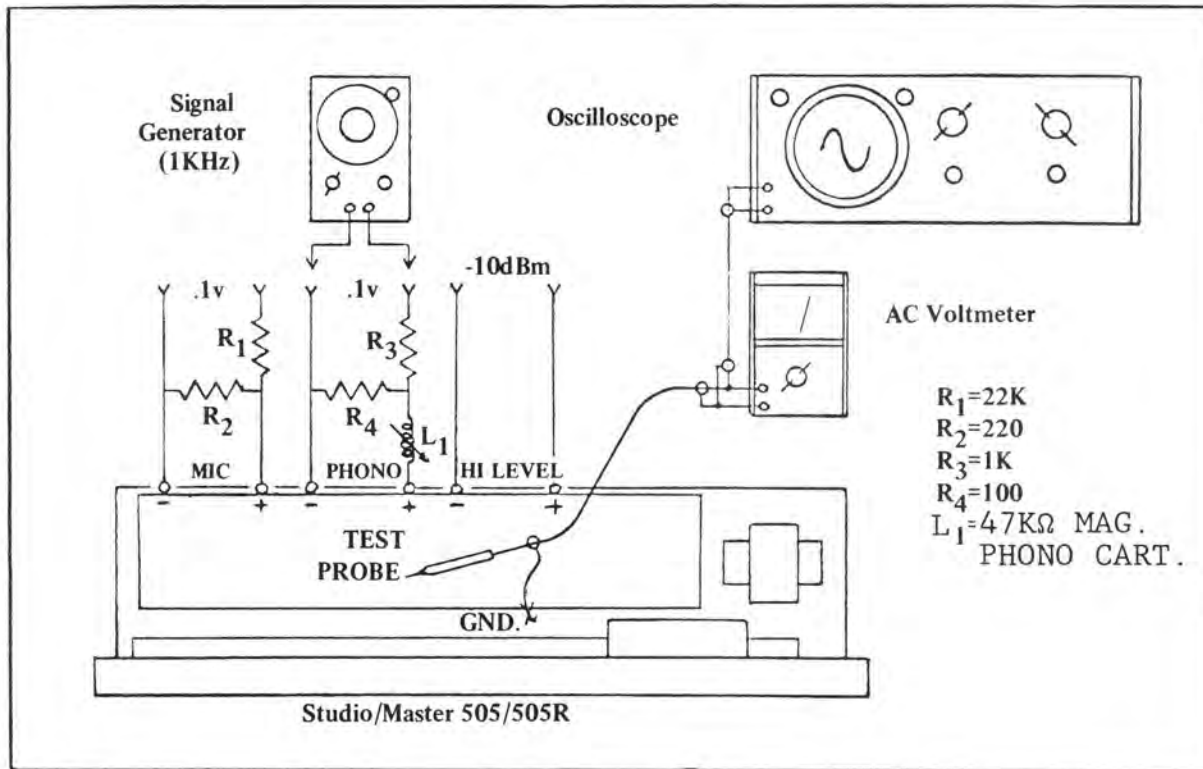

Figure 7-1. Signal Tracing Setup
- 7-16. If DC voltages are normal, signal tracing should be used to determine the point of signal loss. Use either the normal source material (record, etc.) or a signal generator for a source. Inject the signal at the input of the section of the console in question. Signal tracing set-up is shown in figure 7-1.